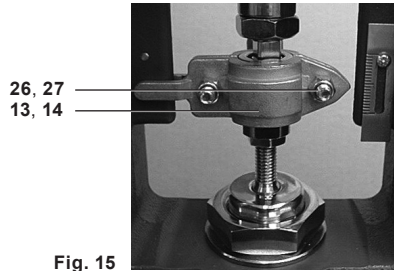

Fig. 15
- Apply just enough air pressure to open the valve fully (see Figure 15).
- Activate the air supply and allow the actuator to retract fully (see Figure 15).